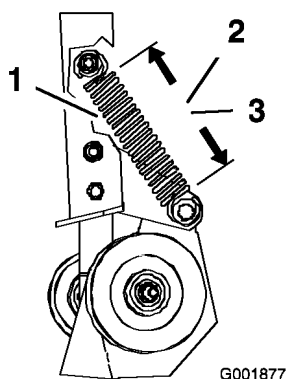
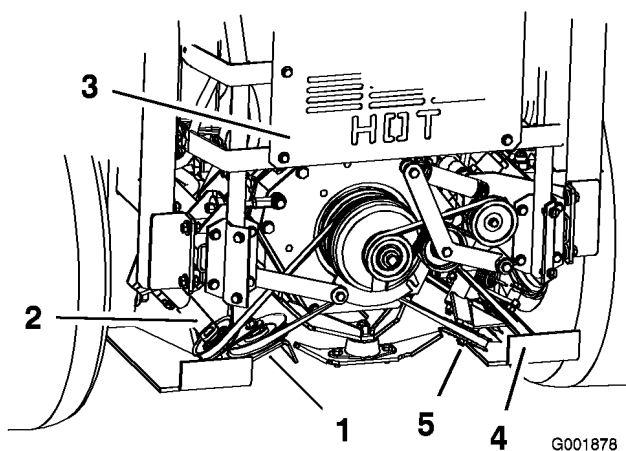

Figure 63
Figure 64
3. Measure the length of the spring. Check to make sure the coils of the spring on the spring-loaded idler pulley measures as listed below (Figure 63 and Figure 64).
- Left spring measurement: $5\text{-}3/4 \pm 1/8$ inch (14.6 ± 0.3 cm) (Figure 63).
- Right spring measurement: $5\text{-}1/2 \pm 1/8$ inch (14.0 ± 0.3 cm) (Figure 63).
4. If the spring does not have the correct measurement, loosen the nut holding the adjustable idler pulley so it can move up and down in the slot (Figure 64).
5. Relieve the pressure on the spring-loaded idler pulley (Figure 64).
6. Position the adjustable pulley lower in the slot and tighten the nut (Figure 64).
7. Check to make sure the coils of the spring on the spring-loaded idler pulley have the correct measurement (Figure 63).